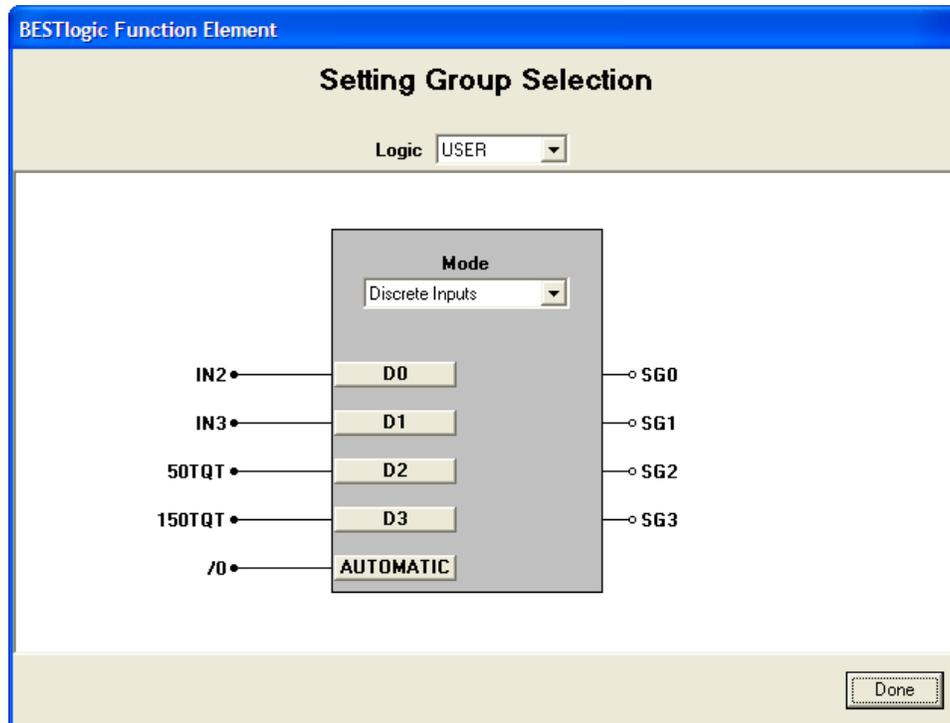

Figure 4-2. BESTlogic Function Element Screen, Setting Group Selection
BESTlogic settings are made from the *BESTlogic Function Element* screen in BESTCOMS™. Figure 4-2 illustrates the BESTCOMS screen used to select BESTlogic settings for the Setting Group Control function. To open the *BESTlogic Function Element* screen for *Setting Group Selection*, select *Setting Group Selection* from the *Screens* pull-down menu. Then select the *BESTlogic* button in the lower left hand corner of the screen. Alternately, settings may be made through the ASCII command interface using the SL-GROUP (settings logic-group control) command.
- Example 1. Make the following settings changes to the setting group control function. Set the setting group control such that automatic selection is overridden and emergency overload settings (SG3) are in place when transformer 2 is out of service. Contact Sensing Input 2 is TRUE when either the high side or low side breakers for Transformer 2 are open. Refer to Figure 4-2 for an example.